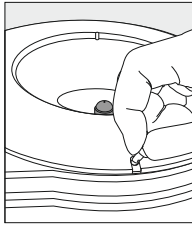
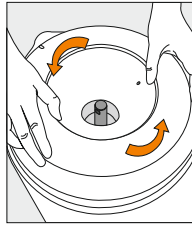
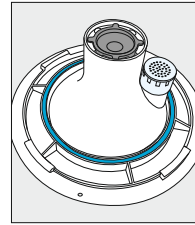

Figure 18
Figure 19
Figure 20
3. Remove the locking pin from the Crystal Guard (Figure 18), which may be stiff, requiring a tool. Use the fingertips of both hands to press on the Crystal Guard and turn counter clockwise till it is free from the cooler opening (Figure 19 and Figure 20).